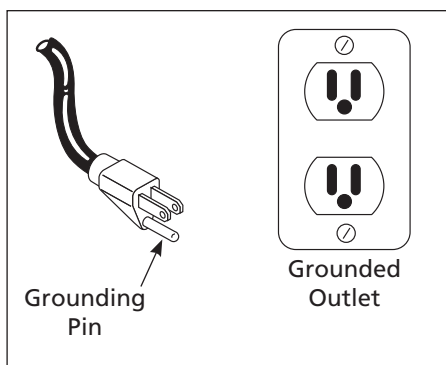

Figure 4 - Grounding Method
1. This product is for use on a nominal 120 volt circuit and has a grounding plug that looks like the plug illustrated in Figure 4. Make sure the product is connected to an outlet having the same configuration as the plug. This product must be grounded. In the event of an electrical short circuit, grounding reduces risk of electrical shock by providing an escape wire for electric current. This product is equipped with a cord having a grounding wire with an appropriate grounding plug. Plug must be plugged into an outlet that is properly installed and grounded in accordance with all local codes and ordinances.